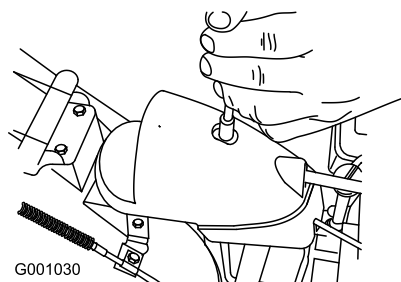

Figure 42
1. Remove the fastener on the gear cover (Figure 42), lift the front of the cover up, and slide it back and out of the way.